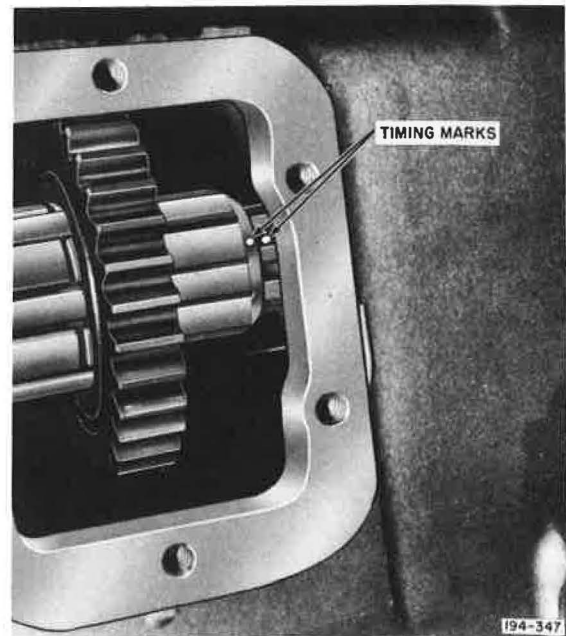

Figure 5-7 . Aligning Timing Marks
10. Align right rear countershaft timing mark with timing mark on front countershaft. See Figure 5-7 . Advance shaft until countershaft rear bearing positioning snap ring seats against case.